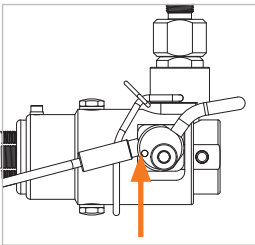

Figure 7
- ▶ Press the locking device (pos. 8) upwards (*Figure 7*).